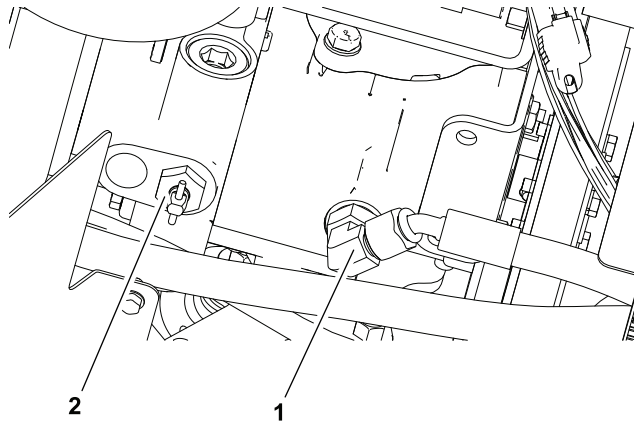

Figure 37
4. Disconnect the hydraulic hose at the piston pump/ hydrostat fitting near the tow valve. This hose comes from the mower manifold CHG port (Figure 37).